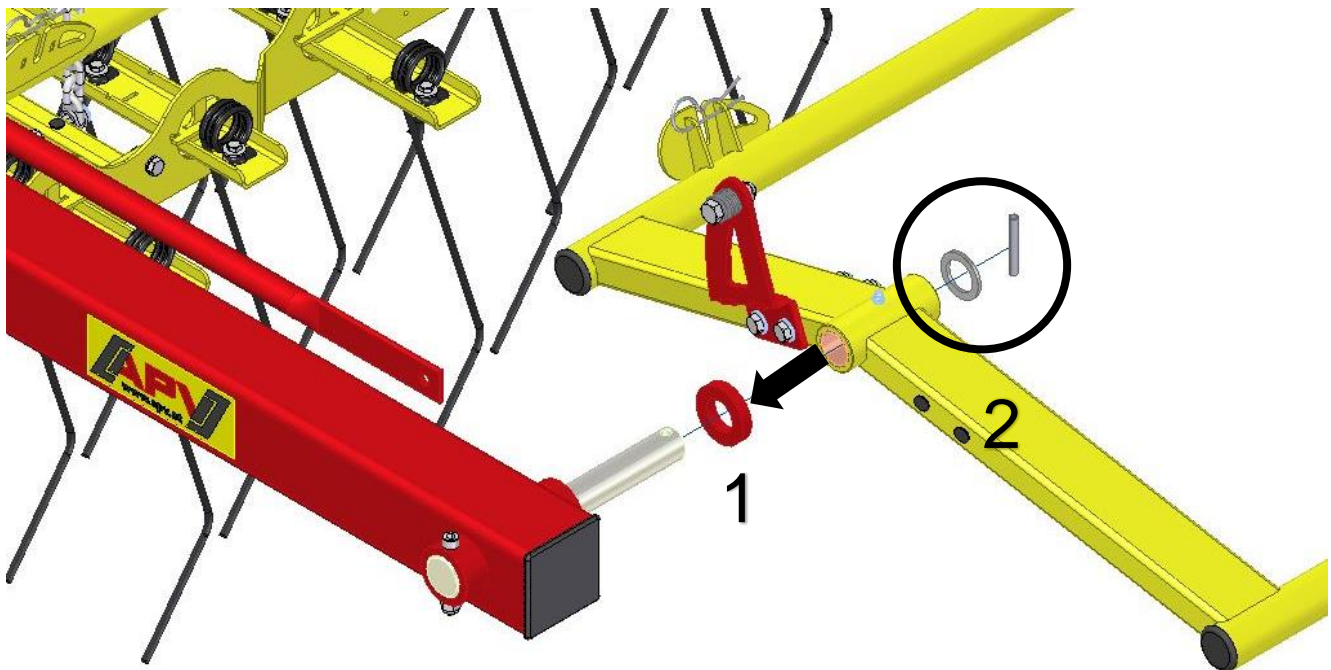

Figure 16: Tine section installation on the frame
Then install the tine section fork on the center frame as shown in Figure 16. To do so, first mount the spacer disk (1) on the bolt. Then slide on the tine section fork and fix it in place with the spacer disk and hollow pin (2).